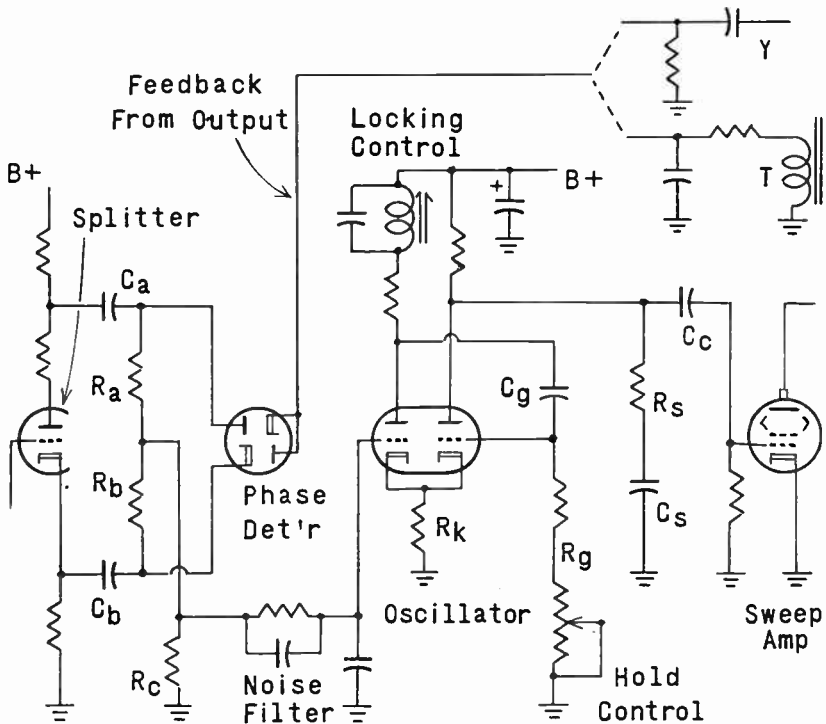
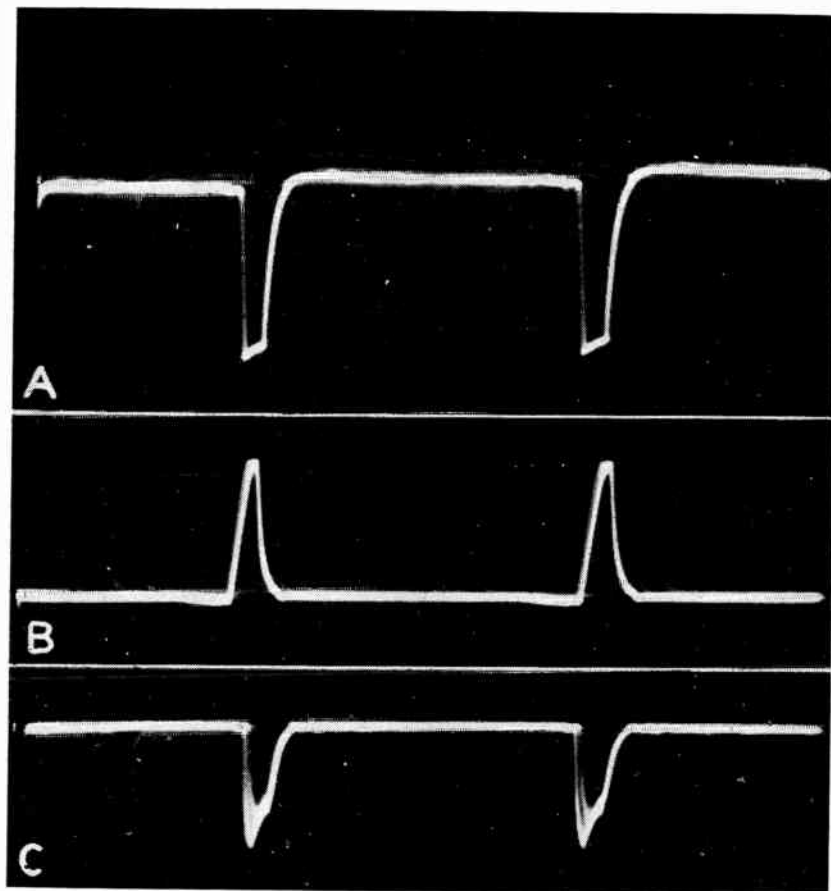
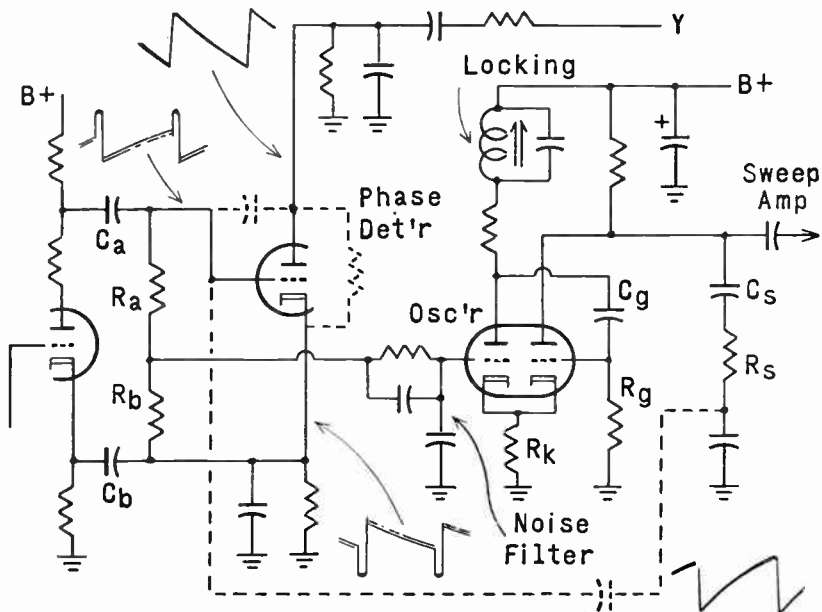

Fig. 11-2. Horizontal sweep section including a twin diode phase detector, multivibrator oscillator, and sweep amplifier.
Fig. 11-3. Synchronizing pulses at the elements of the splitter.
Fig. 11-8. A triode phase detector fed from a splitter and controlling a multivibrator
Fig. 11-2 is a circuit diagram for a horizontal sweep system including a triode phase splitter, a twin diode phase detector and a cathode coupled multivibrator. Among variations or modifications which do not materially alter the processes of trouble location are the following.
8. The feedback waveform applied to the joined plate and cathode of the phase detector may be taken from any of various points beyond the oscillator and output amplifier. The connection at  $Y$  on Fig. 11-2 would be to some point closely associated with the high side of horizontal coils in the yoke, possibly at a tap on the horizontal output transformer or at a damper circuit connection. At  $T$  is represented a small separately insulated winding on the output transformer.
At the splitter grid of Fig. 11-2 are negative synchronizing pulses shown at  $A$  of Fig. 11-3. Inversion in the splitter causes positive pulses, as at  $B$ , to appear at its plate. Since there is no inversion between grid and cathode there are negative pulses, as at  $C$ , appearing at the splitter cathode.
There is no gain in a splitter, rather there is some loss. Grid pulses in Fig. 11-3 were almost 7 volts peak to peak, while pulses at both the plate and the cathode were about 5 volts peak-to-peak.
The difference between d-c voltages caused by different conduction currents in resistors  $R_a$  and  $R_b$  of Fig. 11-2 appears across resistor  $R_c$ , and from the top of  $R_c$  the difference voltage is applied to the first grid of the multivibrator.
Plate current and voltage in the first section of the multivibrator are forced to follow what is essentially a sine waveform by action of the tuned circuit marked *Locking Control* in Fig. 11-2. Other names for this adjustable resonant circuit are stabilizing control, horizontal frequency control, ringing coil, and others.
Pulses of plate voltage due to the cathode feedback of Fig. 11-6-A combine with the sine wave produced by the locking control to make the plate voltage waveform as at  $C$ . This waveform goes through capacitor  $C_g$  of Fig. 11-2 to the grid of the second section of the multivibrator.
Fig. 11-8 shows typical connections for a triode phase detector used in a circuit which otherwise is similar to that of Fig. 11-2, where the phase detector is a twin diode.
A multivibrator circuit which follows the triode phase detector is no different from the multivibrator circuit previously described in connection with Fig. 11-2.